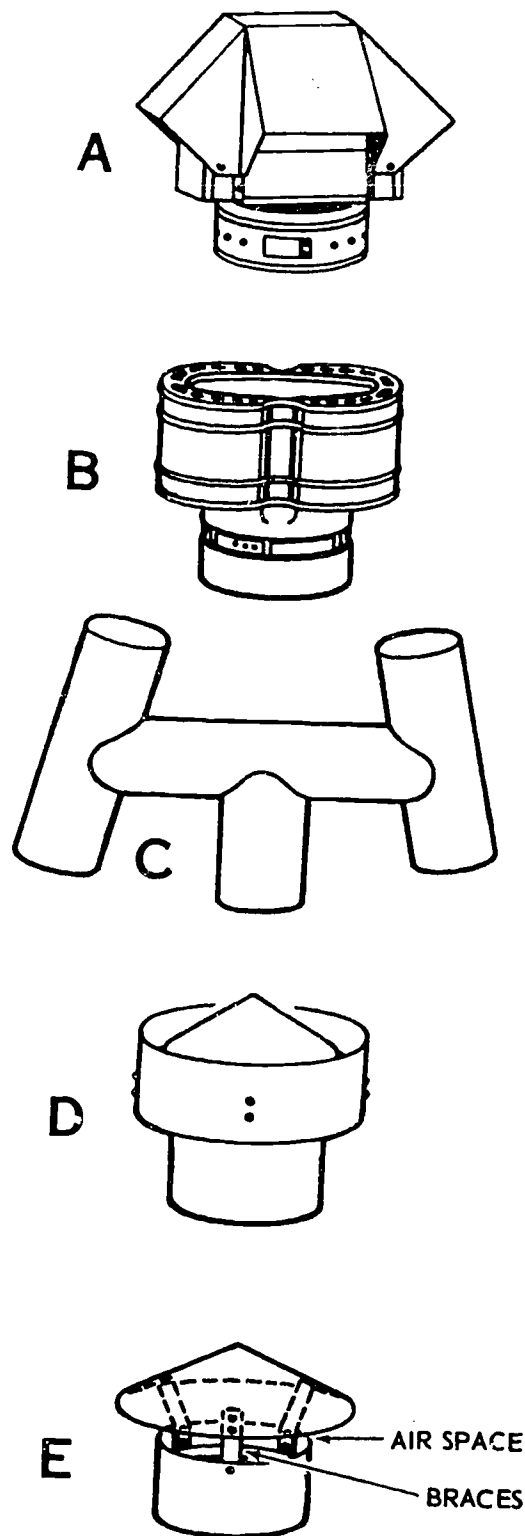

Figure 5-7. Vent caps.
**Vent Caps.** Vent caps are installed at the outlet end (top) of a stack vent. Several different types are used on heating equipment stacks, five of which are shown in figure 5-7. Vent caps A and B are usually purchased "ready made" and are used with double-wall stacks.
The type of stack used for each installation is specified on the working drawing. In foldout 2, you will note that a weatherproof downdraft diverter is specified. Therefore, a vent cap like the one shown in view D of figure 5-7 is required for the installation.
In some cases, you must fabricate a new or replacement ventilator. For example, assume that you must make the draft ventilator shown in view B of figure 5-13. Notice that it consists of a square base that gradually changes to a round pipe, which is covered with a draftproof vent cap, such as that shown in view D of figure 5-7 and in foldout 2. In this example, the transition is 10 inches high with a 12- x 12-inch base that fits over the ridge of a roof with a 5 to 12 pitch. The transition is joined to a 1½-inch collar, which joins a straight pipe that is 6 inches long and 8 inches in diameter. The vent cap has a 2-inch airspace between the collar and top and a 2-inch airspace between the collar and ring.